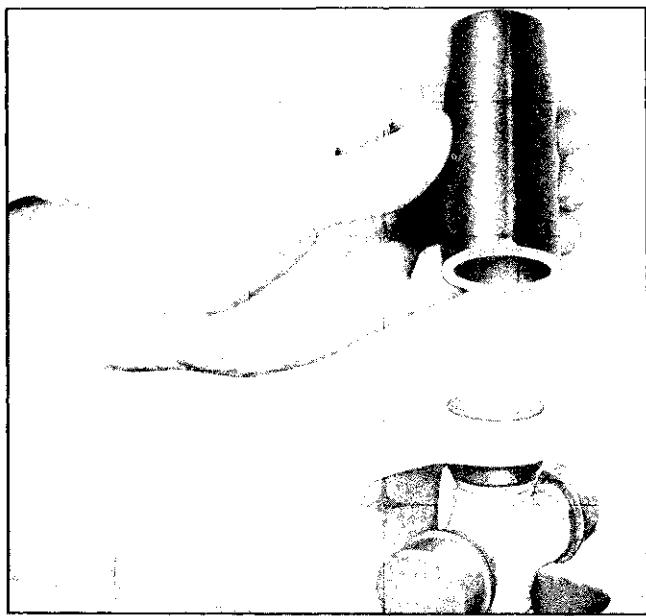

Fig. 4c-2 Removing Bearing from Yoke with 1-1/8" Dia. Pipe
5. Complete removal of these bearings by tapping around circumference of exposed portion of bearing with small hammer (Fig. 4C-4).